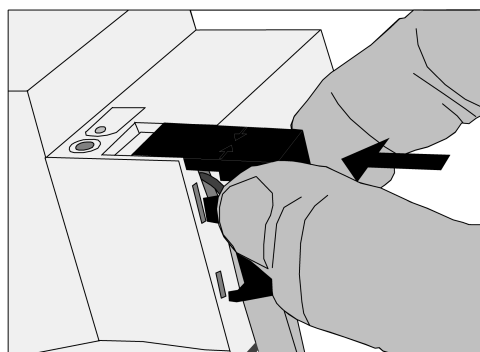

Figure 4: Installing the cover
- Install cover on top of the bus terminal so that it snaps into place (see figure 4).